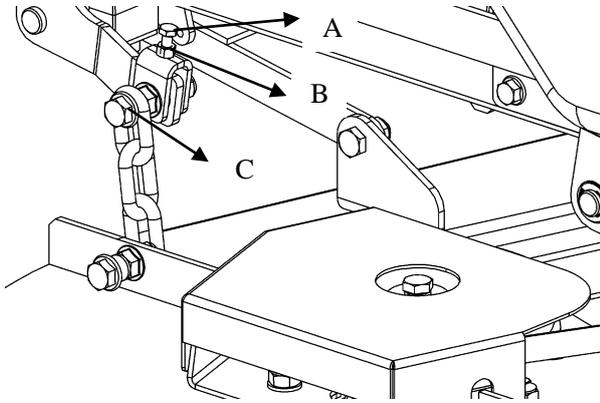

Figure 17
7.2.7 Locate the level adjust bolt (A) on the left front mower deck hanger (Refer to Fig.17).